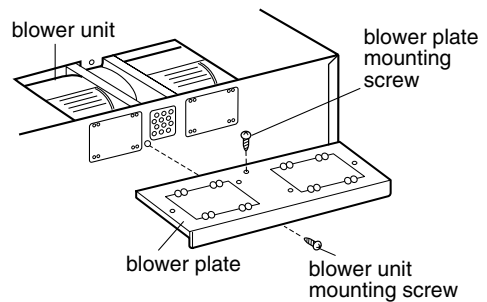

Figure 21
6. Reattach blower plate to microwave oven. Attach with the one blower unit mounting screw and one or two blower plate mounting screws. See **Figure 21**.